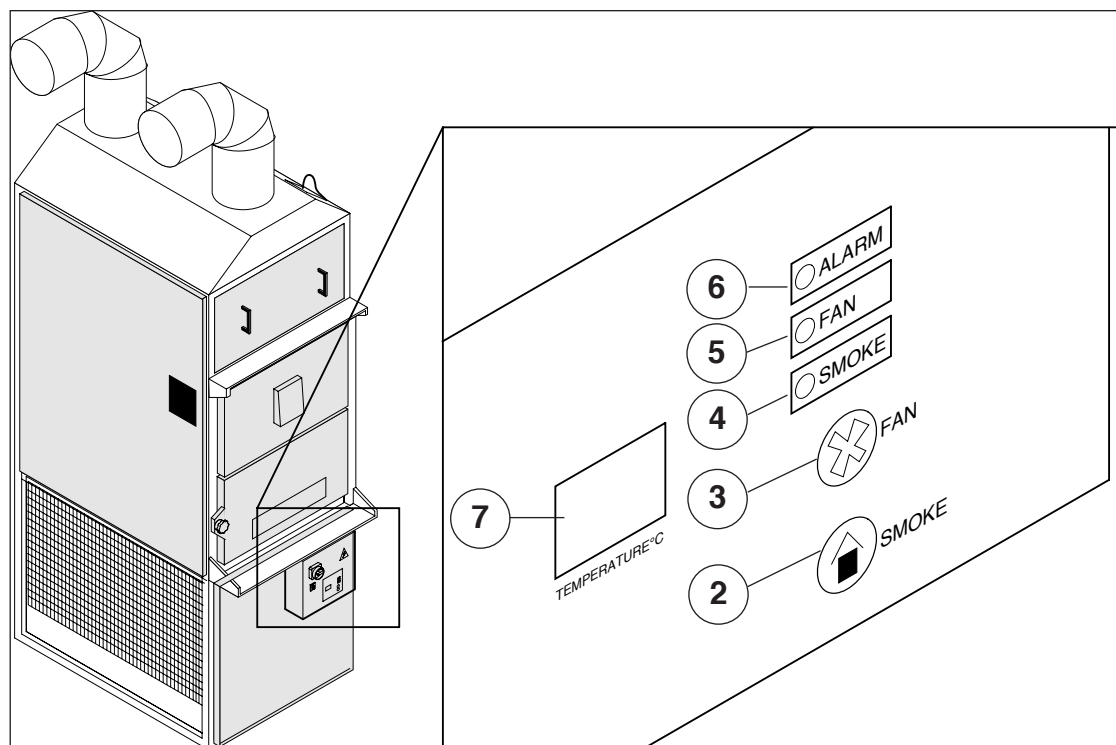

FIG.16
**IMPORTANT:** to turn on cold air circulation, press the fumes vent button (pos.3 fig.16) in absence of combustion.
When temperature reaches 45°C, the air vents will activate automatically (pos.5 in fig.16), and they will automatically switch off as well when temperature drops below 41°C.